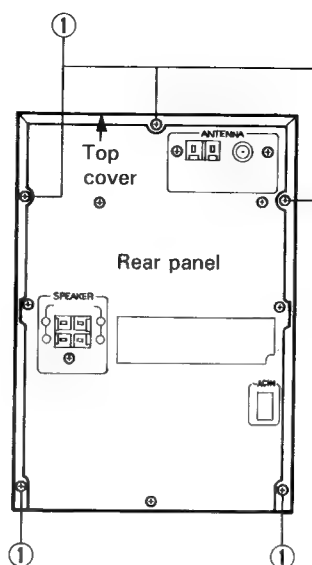

Fig. 7-1
■ Method of removing the top cover (Refer to Figs 7-1 ~ 7-3)
1. From the back surface of the body, remove the five screws ① retaining the top cover.
2. From the right and left sides of the body, remove the two screws ② retaining the top cover.